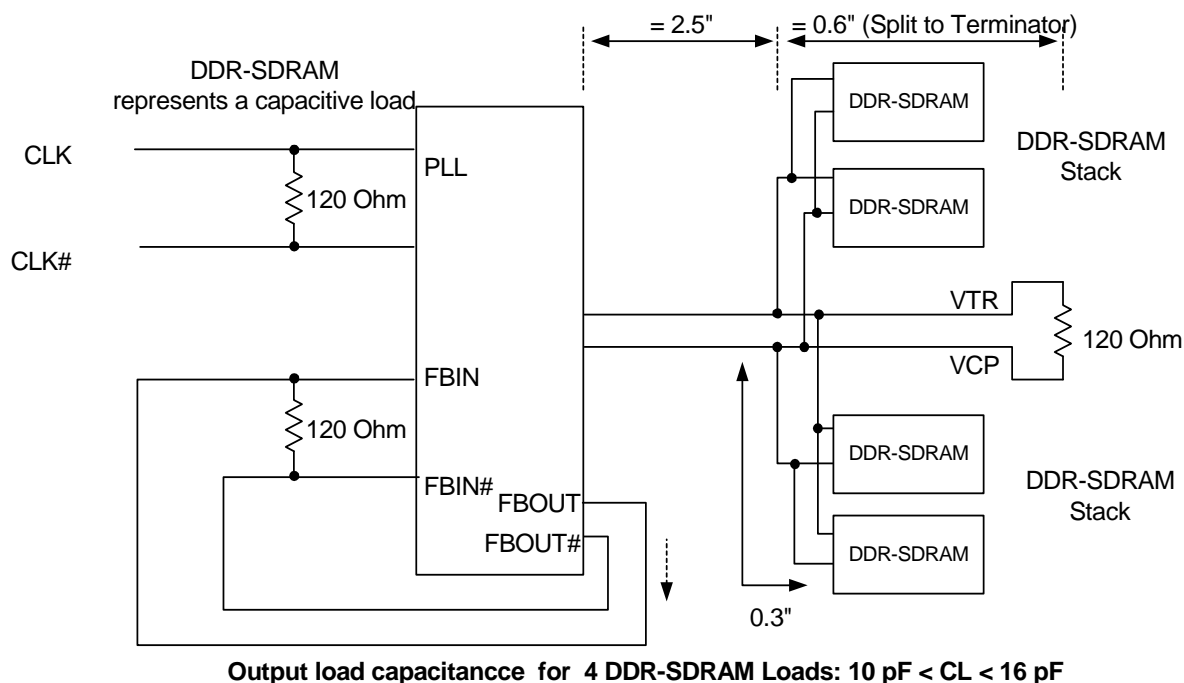

Figure 5. Clock Structure # 1
- 14. All differential input and output terminals are terminated with 120Ω/16 pF, as shown in *Figure 5*.